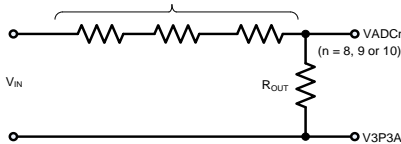
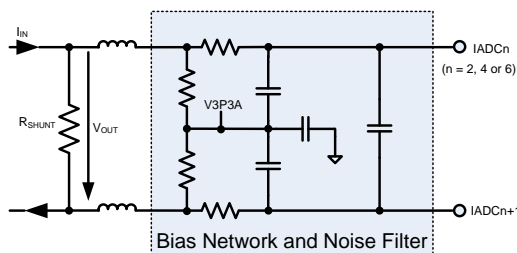
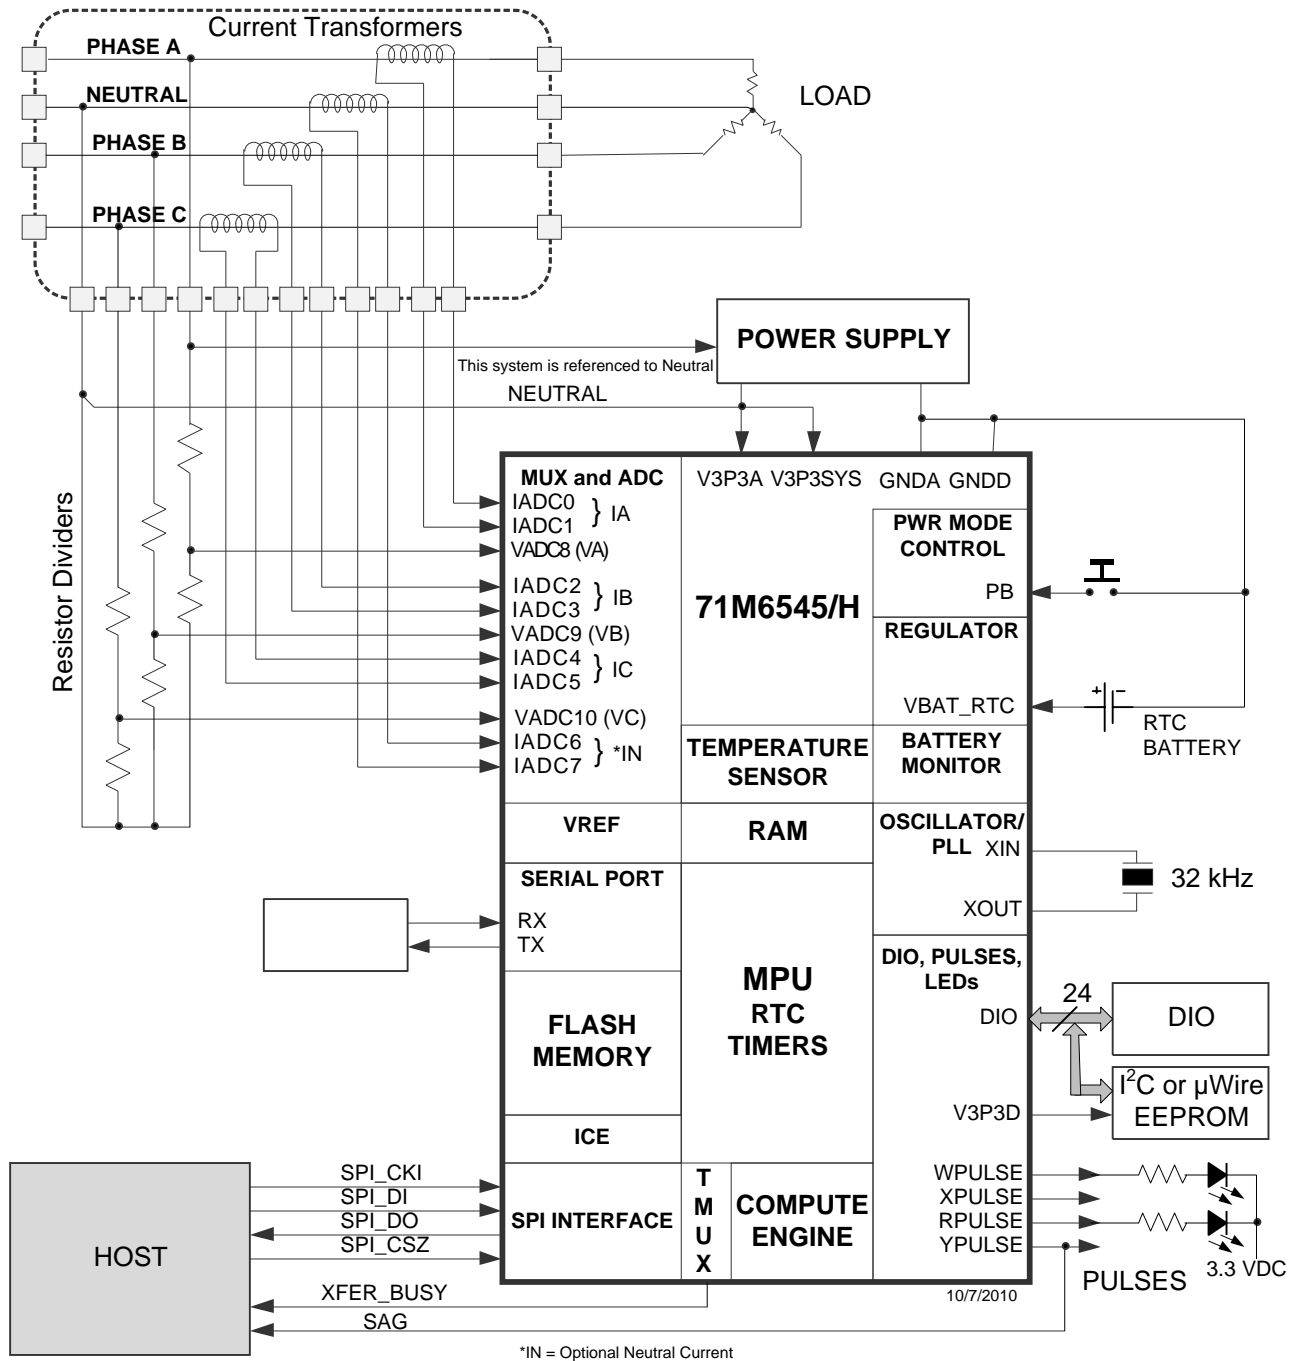

Figure 23: Resistive Voltage Divider (Voltage Sensing)
Figure 26: Differential Resistive Shunt Connections (Current Sensing)
Figure 28. System Using Current Transformers
Figure 23 through Figure 26 show voltage-sensing resistive dividers, current-sensing current transformers (CTs) and current-sensing resistive shunts and how they are connected to the voltage and current inputs of the 71M6545/H. All input signals to the 71M6545/H sensor inputs are voltage signals providing a scaled representation of either a sensed voltage or current.
Figure 28 shows a poly-phase system using four current transformers to support optional Neutral current sensing for anti-tamper purposes. The Neutral current sensing CT can be omitted if Neutral current sensing is not required. The system is referenced to Neutral (i.e., the Neutral rail is tied to V3P3A and V3P3SYS).
for the voltage sensors (see Figure 23) determine the behavior of the voltage division ratio with respect to temperature. It is recommended to use resistors with low temperature coefficients, while forming the entire voltage divider using resistors belonging to the same technology family, in order to minimize the temperature dependency of the voltage division ratio. The resistors must also have suitable voltage ratings.
This section discusses metrology temperature compensation for meter designs where Current Transformer (CT) sensors are used, as shown in Figure 28.
Referring to Figure 28, the VADC8 (VA), VADC9 (VB) and VADC10 (VC) voltage sensors are directly connected to the 71M6545/H. Thus, the precision of the voltage sensors is primarily affected by VREF in the 71M6545/H. The temperature coefficient of the resistors used to implement the voltage dividers for the voltage sensors (see Figure 23) determine the behavior of the voltage division ratio with respect to temperature. It is recommended to use resistors with low temperature coefficients, while forming the entire voltage divider using resistors belonging to the same technology family, in order to minimize the temperature dependency of the voltage division ratio. The resistors must also have suitable voltage ratings.
Table 58: GAIN_ADJx Compensation Channels (Figure 3, Figure 28, Table 2)